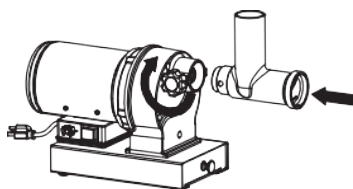

Fig. 1
- Insert grinder head into gear housing; be sure that the hopper tray throat is facing upward. Holding the grinder head with one hand, place the locking knob into the hole on the side of motor housing and tighten it clockwise. (See Fig 1)